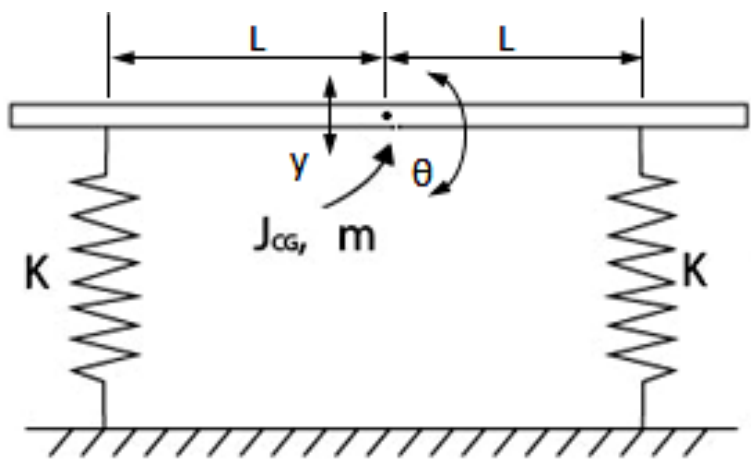

Fig.5
- (b) Find the equations of free vibration for the following system shown in Fig.5 using Lagrange's method. J_{cg} is the moment of inertia about axis perpendicular to paper and passing through centre of mass m is the mass, k is the stiffness of spring, y is the linear displacement of centre of mass and θ is the angular displacement about axis perpendicular to paper and passing through centre of mass.